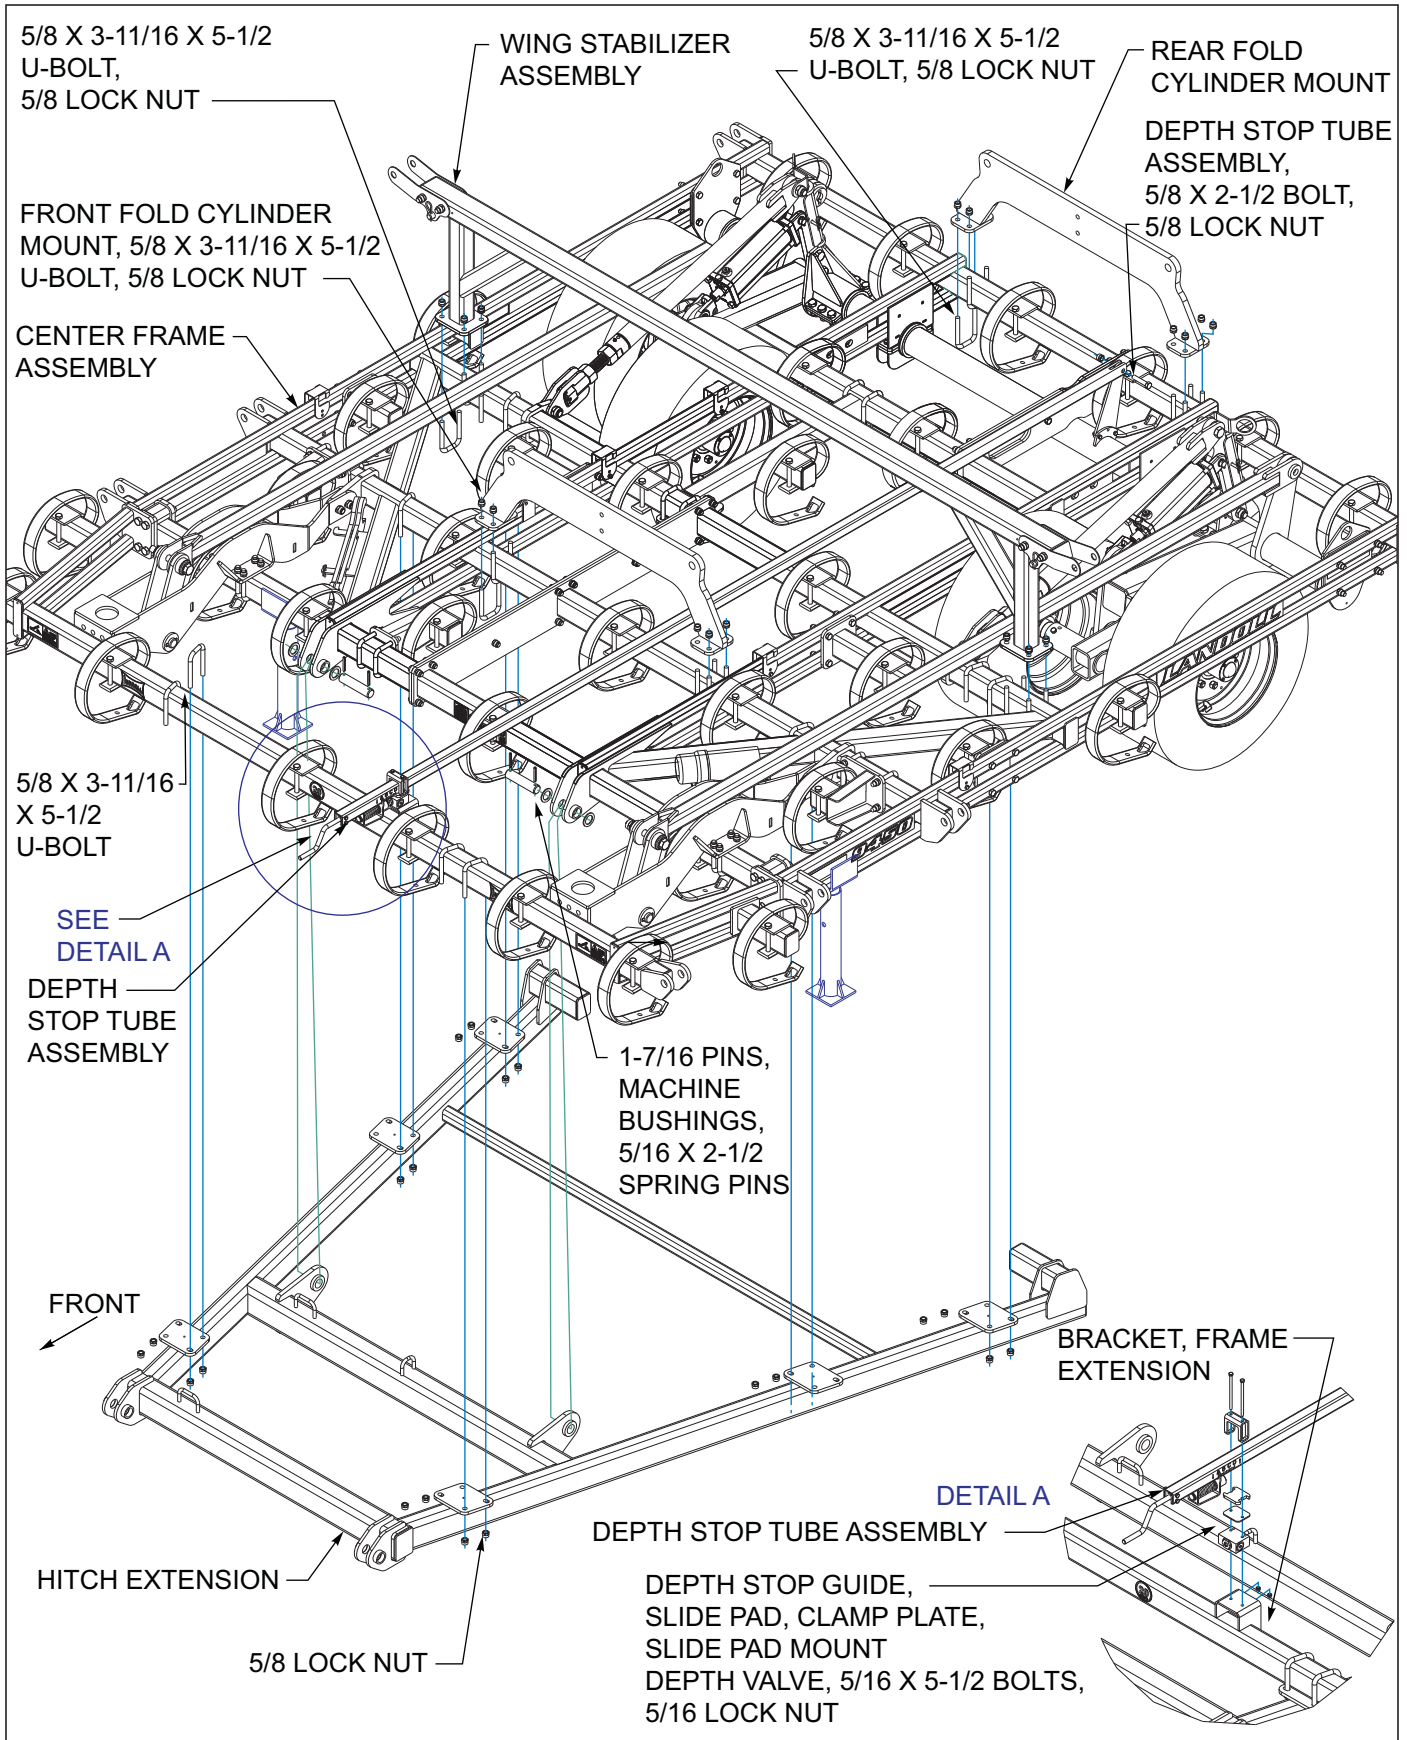

Figure 3-3: Center Frame Fold & Depth Control Assembly
1. Attach the hitch extension to bottom side of frame assemblies with 5/8 x 3-11/16 x 5-1/2 u-bolts and lock nuts *See Figures 3-3*. Attach hitch extension ears to front of center frame with 1-7/16 pins, machine bushings and 5/16 x 2-1/2 spring pins.
4. Align holes of the depth valve with plunger to front of machine to holes of bracket on the frame extension. Use the depth valve mounting holes closet to the plunger when mounting. Insert the slide plate, clamp plate, depth stop tube assembly and slide pad mount in orientation shown *See Figure 3-3*, Detail A, secure with 5/16 x 5-1/2 bolts and 5/16 lock nuts.